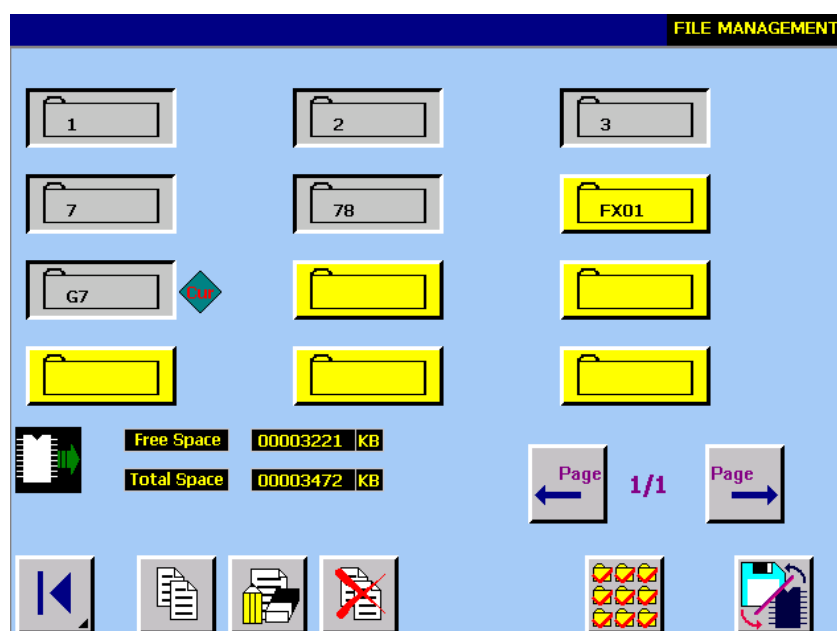

figure 3.4
- 1 Select file you want to copy as figure 3.4 shown.
- 1 On file management screen, one file is selected. As figure3.4 shown, the No. G7 is selected as the current file ( sign is the current file). Press button , the Copying file screen is displayed.